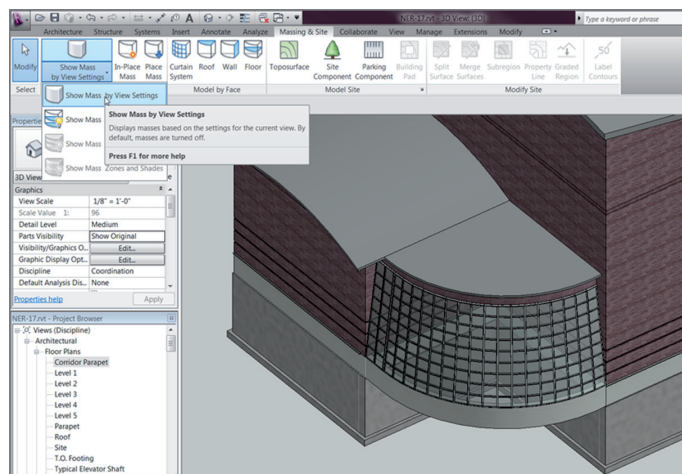

FIGURE BC1.55: The new funky atrium
14. Click Show Mass By View Settings. Your new atrium should look like Figure BC1.55.